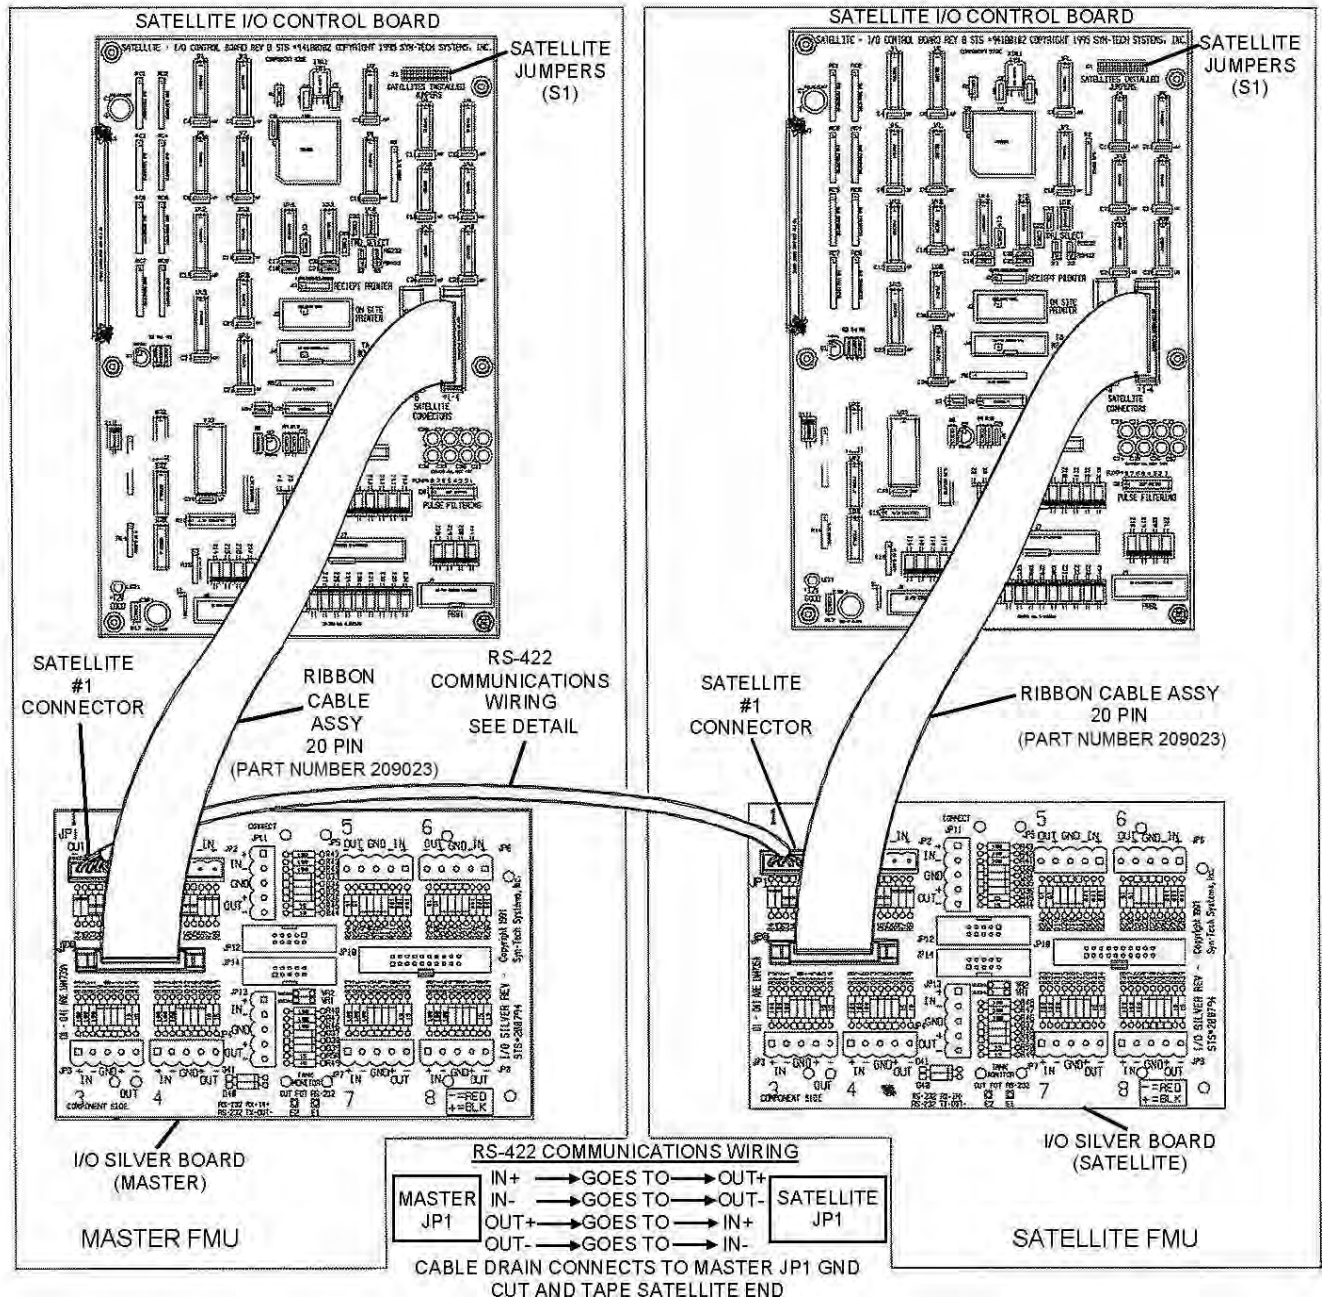

Figure 4-24. Satellite Connections
9. **Satellite Connections** (see Figure 4-24). Both master and satellite FMUs must be equipped with a Satellite Option (STS part number 200034A) to accept the wire terminations and provide the necessary internal interface cables. This option is standard equipment in each satellite FMU, but an extra price option in master FMUs. This option is not required with an EIU. EIUs have other provisions for connection to a master FMU. See TBD to make an EIU connection.
- e. Note the **RS-422 COMMUNICATIONS WIRING** chart at the bottom of Figure 4-24, and make the cable connections in both FMUs leaving the cable drain disconnected at one end.